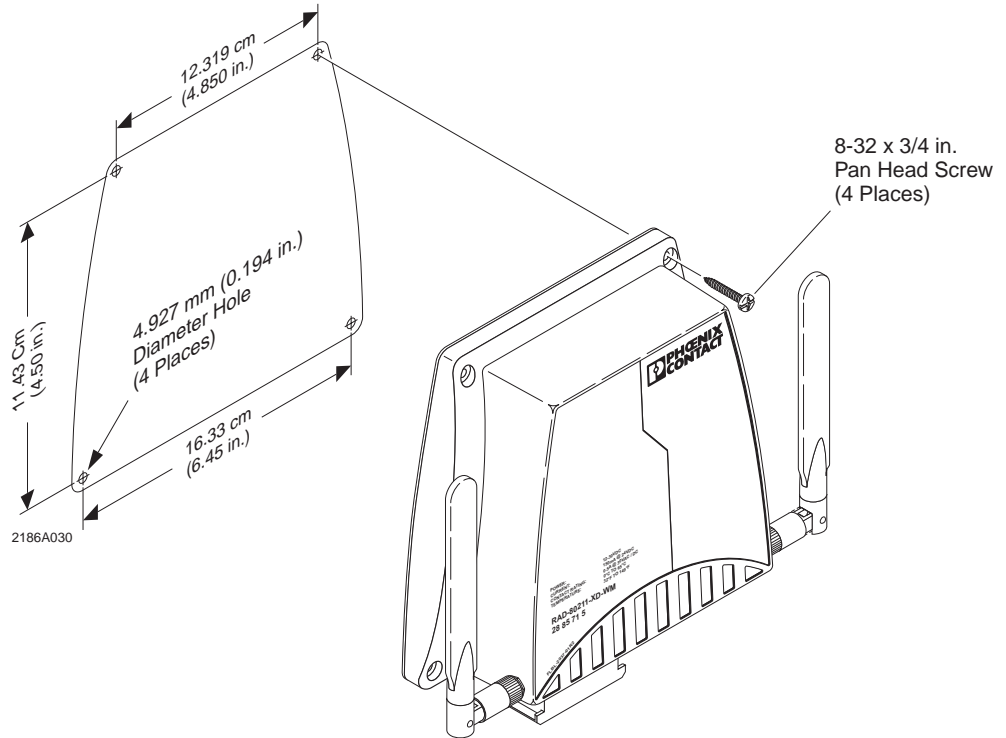

Figure 3-3. Typical Installation of the RAD-80211-XD-WM Radio
1. Mount the radio to a flat surface such as a wall or cabinet side using four (4), 8-32 pan-head screws at least 3/4-in. long. Figure 3-3 shows a typical RAD-80211-XD-WM radio installation. A template for locating the mounting holes is provided in Appendix C at the back of this manual.